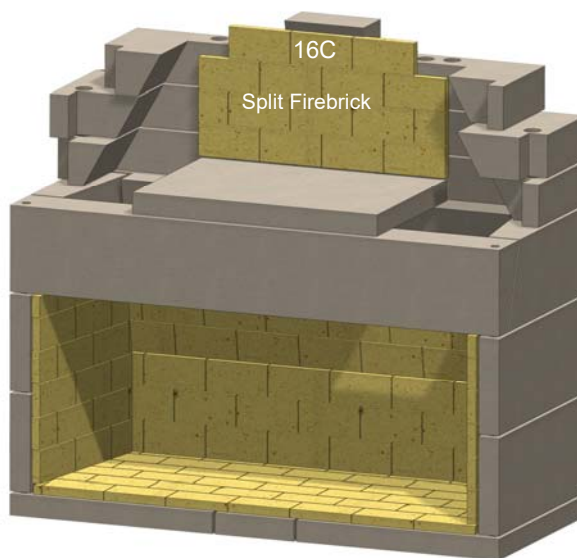

Figure 23. Oven Back Wall Firebrick
N. Install split (1 ¼" thick) firebrick along the back wall of the fireplace throat. See Figure 23.